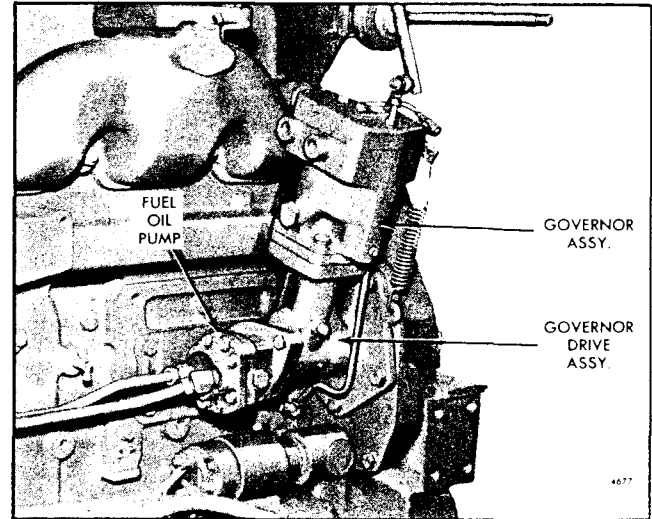

Fig. 2 - Hydraulic Governor Drive Mounting
- a. Place the flat side of the droop adjusting bracket against the inside face of the terminal lever boss as shown in Fig. 2 and secure it to the terminal lever with a flat washer, lock washer and bolt.
terminal lever shaft sleeves in the governor housing with the convex bearing surface resting on the power piston and the droop adjusting bracket pin in the slot of the floating lever as shown in Fig. 2.
21. If removed, thread the lock nut on the maximum speed adjusting screw. Place the copper washer on the adjusting screw, then thread the screw approximately half way in the governor housing (Fig. 2).
The governor drive housing is attached to the forward face of the cylinder block end plate as shown in Fig. 2. The engine fuel pump is attached to the forward end of the drive housing and is driven by the governor drive shaft.
Refer to Fig. 2 and proceed as follows: